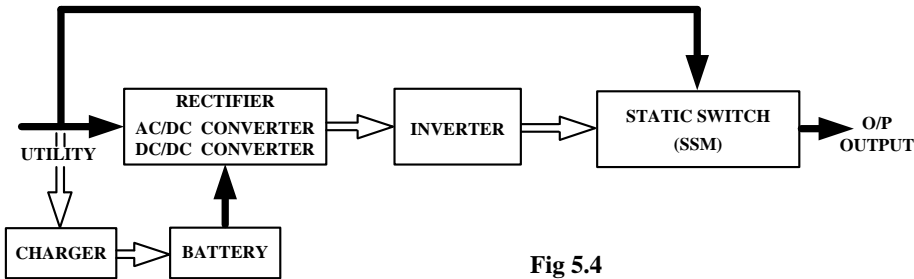

**Fig5.3**
3. During a utility outage the UPS will work as illustrated in Figure 5.3. When the batteries are low the buzzer will beep continuously until the batteries are completely cut off. The low-battery protection of the UPS will cut off the battery supply at a preset threshold to avoid over-draining the batteries.